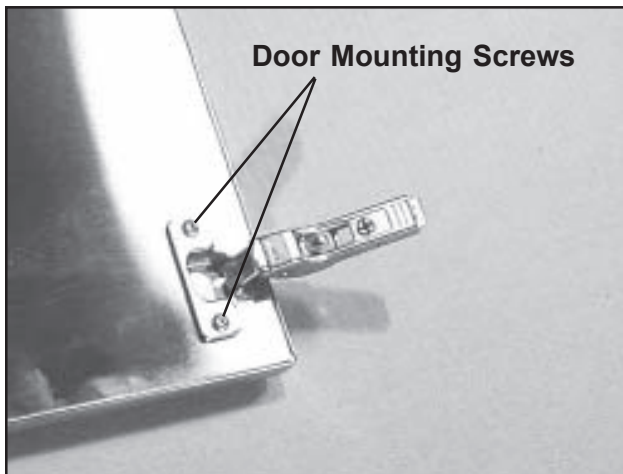

Figure 16. Hinge Mounted on Door
3. With a Phillips screwdriver, remove the two mounting screws on the hinge and remove the hinge from the door (Figure 16).